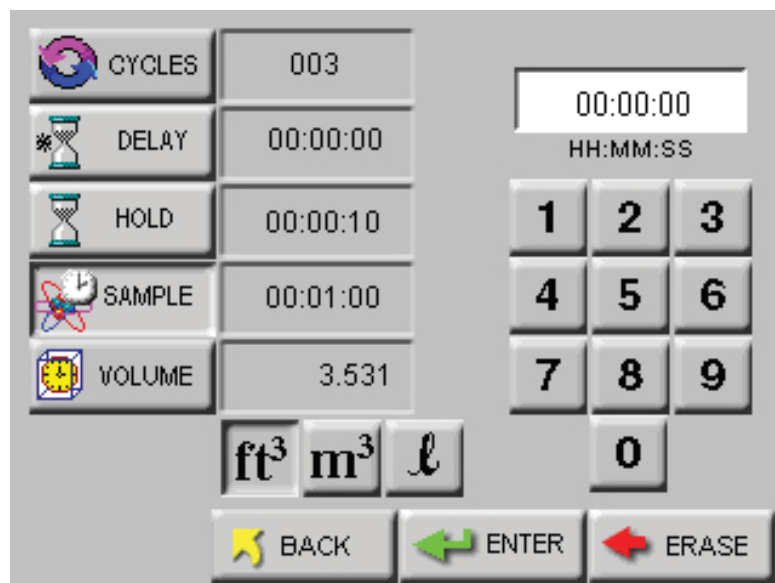

Figure 6-90 Reports Sample Screen
- Select the SAMPLE button to configure the number of Cycles, Delay time, Hold time, Sample time and Volume. See Figure 6-90.